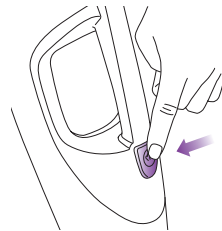

fig. 6
- 4 Press the power button to turn the unit on. **(fig. 6)**